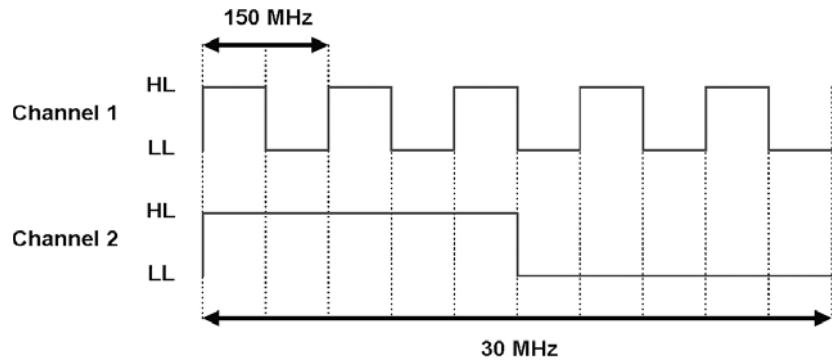

Figure 3
- two output channels (figure 3)